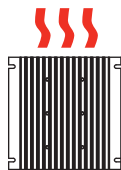

fig. 2 Maximum heat sink dissipation on natural convection
- ◆ For optimal thermal performance heat sink fins should be oriented vertically to promote natural convection airflow. (See **fig. 2**)